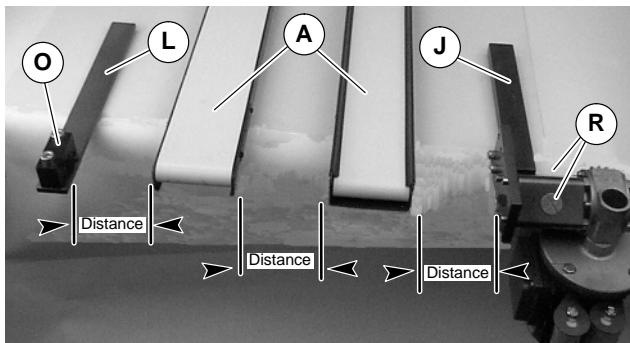

Figure 8
10. Align conveyors between gearmotor support assembly (J of Figure 8) and bearing support assembly (L).
**NOTE:** Do not secure the conveyors (A of Figure 8) to mounting surface.
11. Cut shaft cover (N of Figure 2) into pieces to match each distance (Figure 8) minus 1.5 mm.
12. Remove inspection plugs (R of Figure 8).